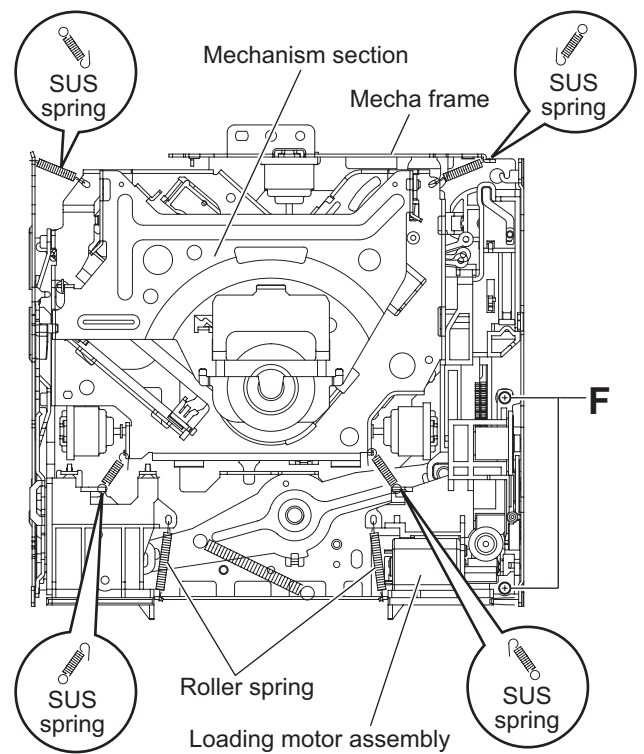

Fig.9
### 3.2.5 Removing the mechanism section (See Fig.9 and 10)
- (1) From the top side of the CD MECHANISM assembly, remove the two screws **F** attaching the loading motor assembly. (See Fig.9.)
- (2) Remove the two roller springs on the top side of the mecha frame. (See Fig.9.)
- (3) Remove the four SUS springs on the top side of the mecha frame. (See Fig.9.)